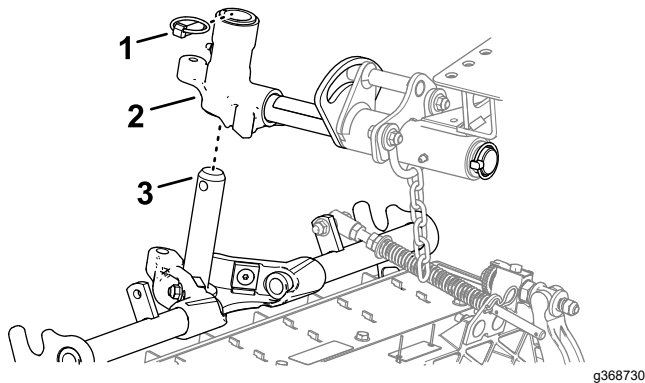

Figure 15
1. Slide a cutting unit under the lift arm (Figure 15).